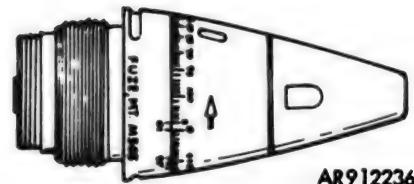

Figure 211.20. Mechanical time fuze M565.
f. **Fuze, Mechanical Time, M565**. (fig. 211.20). MT fuze M565 is similar to MTSQ fuze M564 except that the fuze contains neither the point detonating assembly nor the booster assembly. Fuze M565 can be set from 2 to 100 seconds. Like the M564, fuze M565 employs a vernier scale to ensure a setting accuracy of 0.1 second. This fuze is used with base-ejection projectiles only.